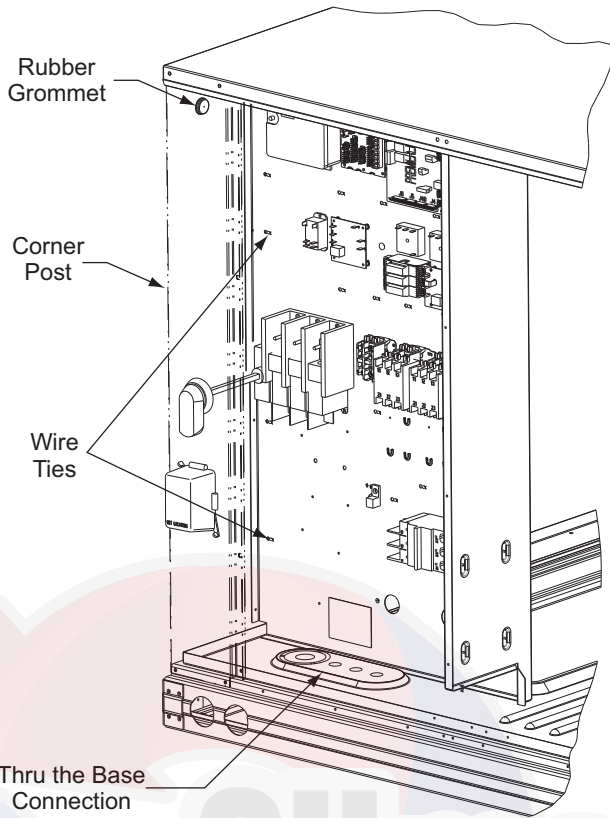

Fig. 38 - Field Control Wiring Raceway
NOTE: If utilizing the through the base connections, route the low voltage wire through the wire ties to the Integrated Staging Control (ISC) board (see Fig. 38).
2. Feed wires through the raceway built into the corner post (see Fig. 38) to the 24-v barrier located on the